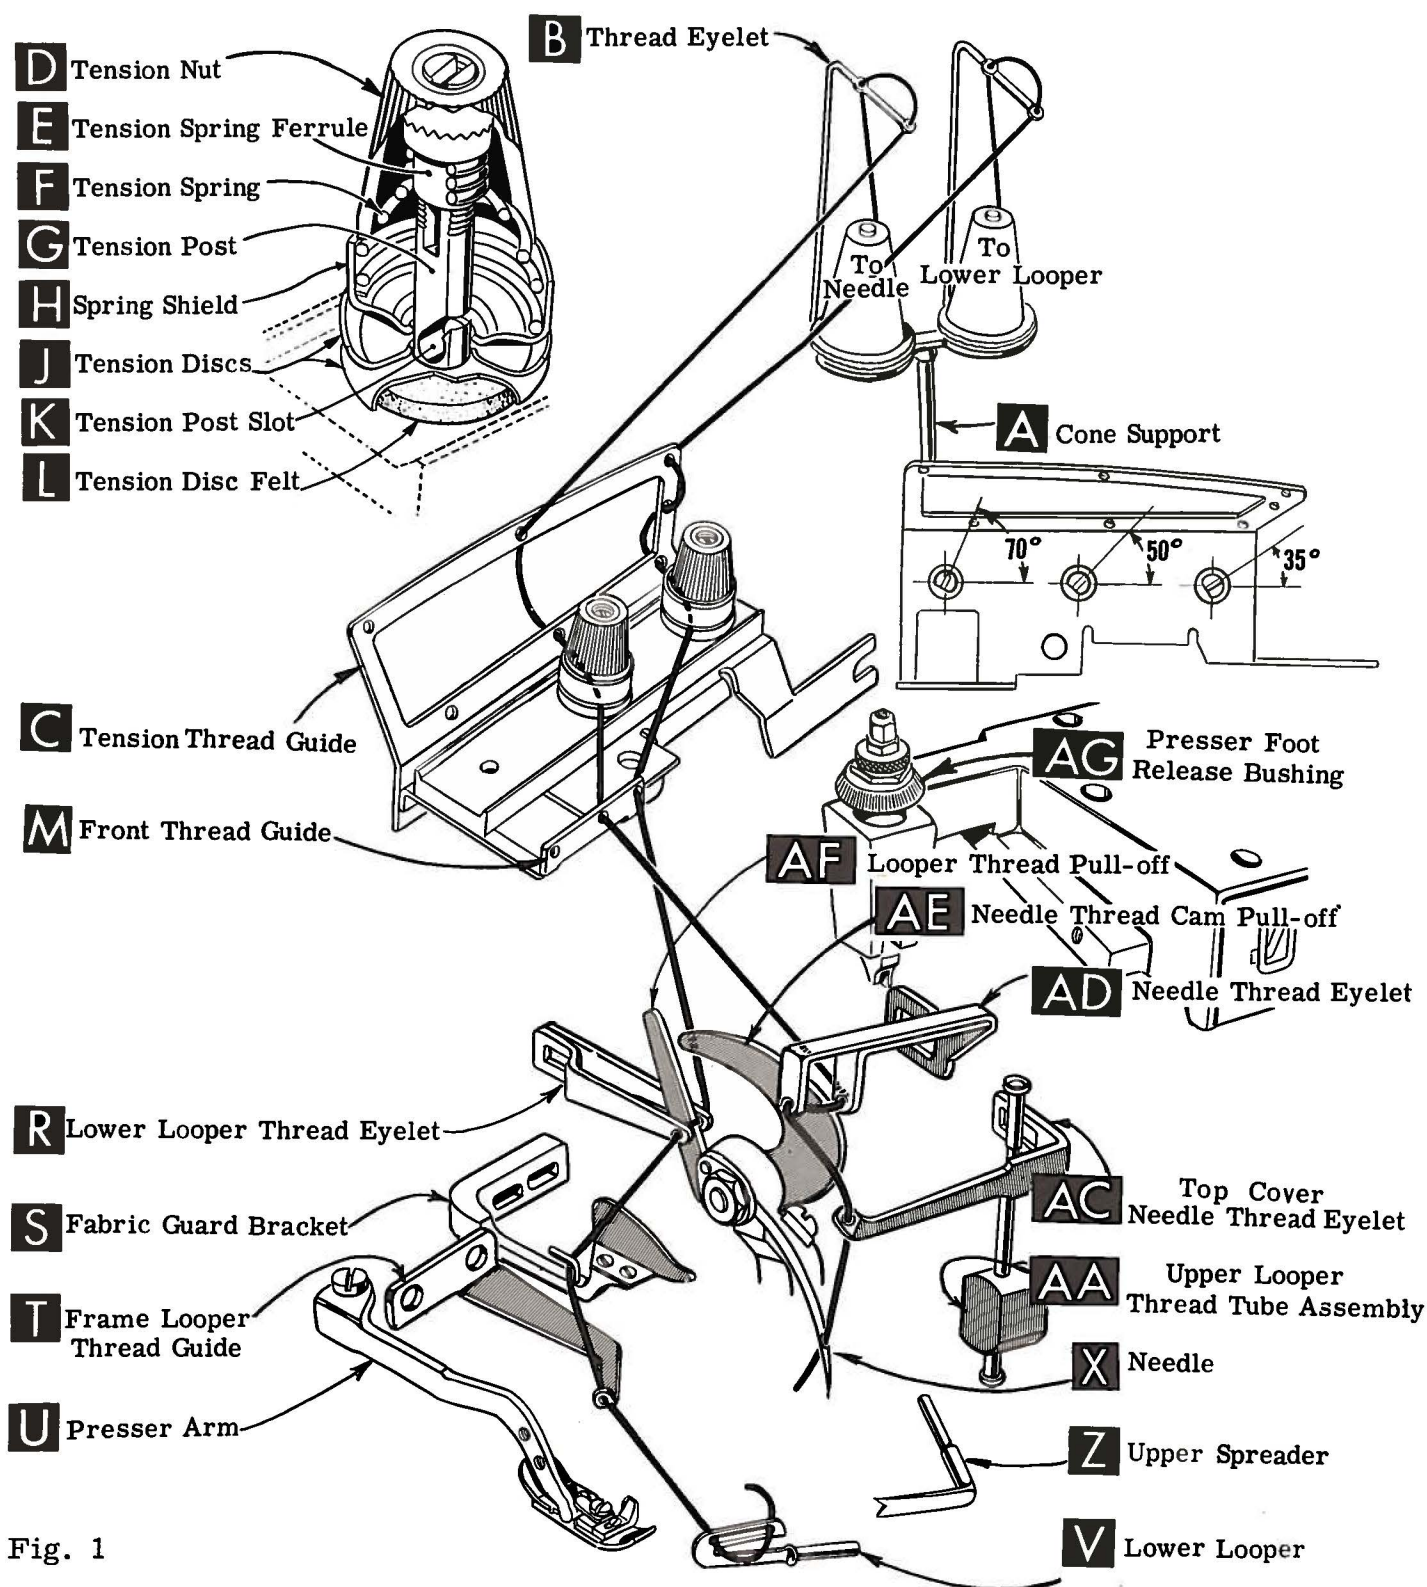

Fig. 1
Release pressure on presser foot by turning presser foot release bushing (AG, Fig. 1) and swing presser arm (U) out of position. Turn handwheel in operating direction until needle is at its lowest point of travel. Using hexagonal socket wrench No. 21388 AU, furnished with machine, loosen needle clamp nut about 1/4 turn. Again turn handwheel until needle is at high position; withdraw needle.
After thread comes from cone on cone support (A, Fig. 1) it is brought up through the back thread eyelet and then down through the front thread eyelet (B). The needle thread is then brought through the upper hole of tension thread guide (C) from front to back and then through the lower hole, from back to front. The lower looper thread is brought through the upper hole of tension thread guide (C) from back to front, through the middle hole from front to back and then through the lower hole from back to front. Both threads then continue between the tension discs (J), through tension post slot (K) in tension post (G) and on through eyelets in front thread guide (M).
Only the parts involved in threading the two thread machines are shown in the threading diagram (Fig. 1). Refer to threading diagram Fig. 1, page 6, in Catalog No. 103 FA for the threading the three thread machines. Parts are placed in their relative positions for clarity.
Double end of thread and lead it through both eyes of lower looper thread eyelet (R, Fig. 1) from right to left. NOTE: Thread must pass in front of looper thread pull-off (AF). Lead thread behind fabric guard bracket (S) and through frame looper thread guide (T). Turn handwheel in operating direction until heel of lower looper (V) is all the way to the left; then thread through both eyes from left to right. Left eye of lower looper can be threaded easily if tweezers are in left hand.
Turn handwheel in operating direction until needle (X, Fig. 1) is at its highest position. Insert needle thread from right to left, through both eyes of needle thread eyelet (AD), under neck of top cover casting; and then down through hole in top cover needle thread eyelet (AC). Thread needle from front.
The amount of tension on needle and looper threads is regulated by two knurled tension nuts (D, Fig. 1). Tension on threads should be only enough to secure proper stitch formation.
While sewing on material, check needle thread control as follows: Usually all needle thread is drawn on needle down stroke. At top of needle stroke, thread should be just tight enough to feed chain off stitch tongue. Stitch tends to pull down slightly if excessive thread is pulled on the up stroke. With needle at bottom of stroke, position needle thread eyelet (AD, Fig. 1) so that needle thread cam pull-off (AE) just contacts needle thread.
With material under presser foot, set lower looper thread eyelet (R, Fig. 1) back and down far enough so thread is a little slack when spreader reaches its extreme left position. Lower looper thread eyelet (R) should be about horizontal.